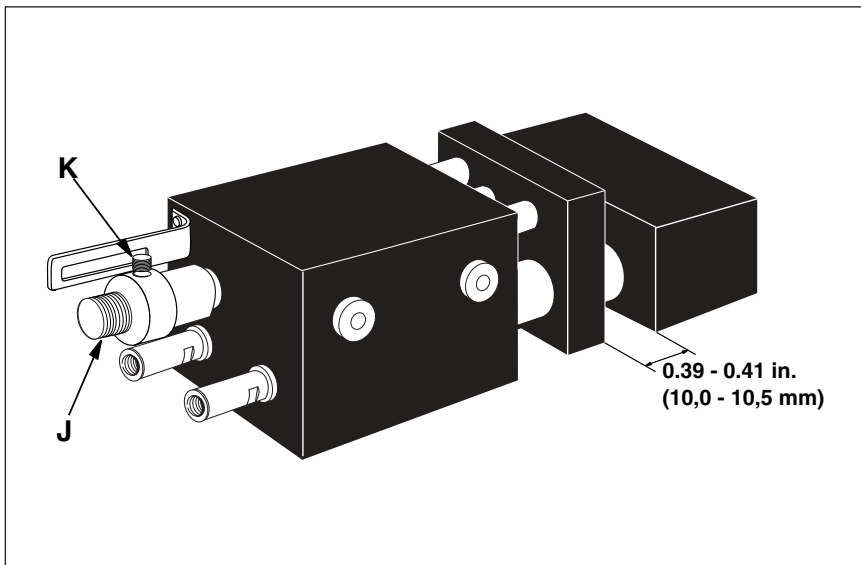

Figure 6, Alignment of Auto Coupler
9. Adjust bushing (J) against the base station by turning bushing counterclockwise on plunger until the plunger contacts the body of the base station. See Figure 6.